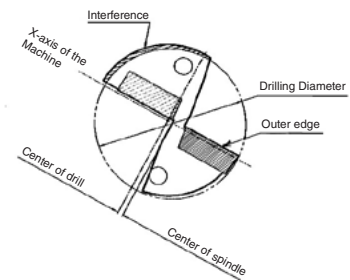

Fig.4 Excessive offset (For Smaller Hole Diameter)
- (1) Align the drill with the outer insert face parallel to the X-axis of the tool turret. (Fig.4)
- (2) Align the scale (for the lathe) on the flange face of the sleeve to the center of the drill coolant plug.
- (3) When no core remains, rotate the sleeve to (+) direction to make the core larger, and when the core diameter is more than 1mm, rotate the sleeve to (-) direction to make the core smaller.
- (4) When rotating the sleeve, insert the wrench supplied with the drill into the hole of the flange and then rotate the sleeve.
- (5) After Completing the adjustment, tighten the drill directly through the window on the sleeve.
However, be sure not to make the hole diameter smaller than the drill diameter by 0.2mm or more. Otherwise, the toolholder will interfere with the drilled hole. (Fig.4)